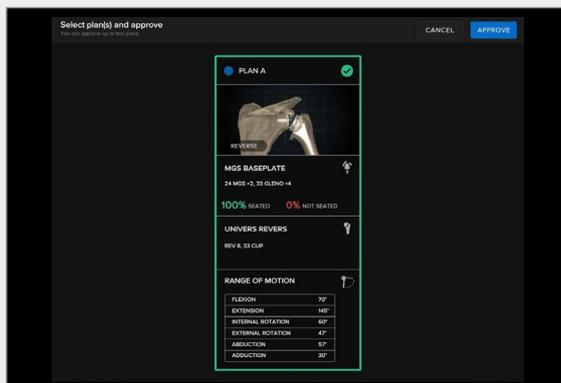

Figure 81. Single Plan Approval page
- Selecting either option will open the plan approval page (Figures 81 and 82), where a comprehensive plan summary is listed for each plan and surgeon users may select up to 2 plans for approval.